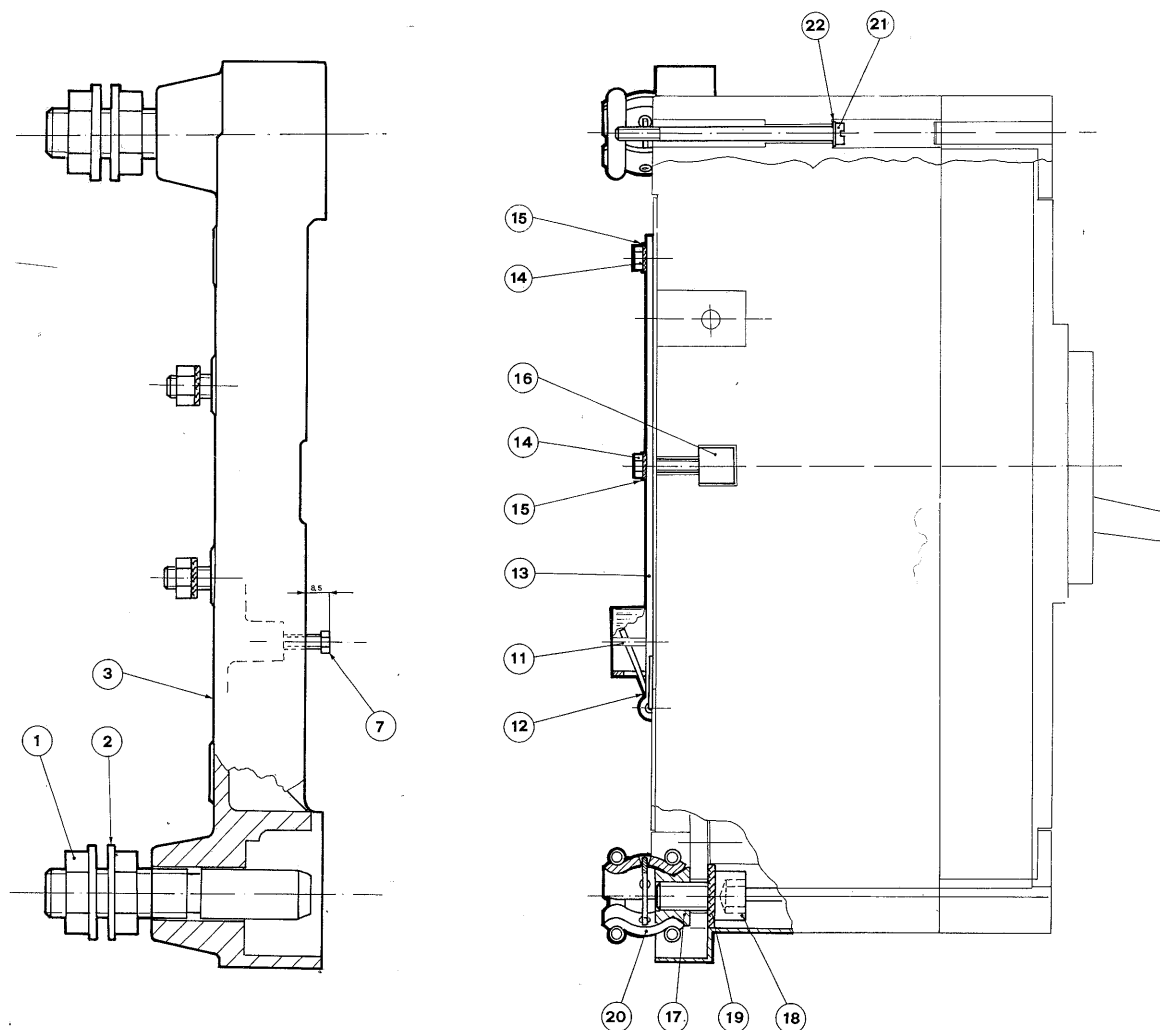

Fig. 11
- f) introduce the torsion spring (12) into the hole of rod (11)
- g) secure plate (13) with screws (14) and washers (15) to the special nut (16) into proper seats on the breaker case
- h) screw down stems (17) from the rear and secure them with nuts (18) and washers (19) from the front with a box spanner, then fit the tulip contacts (20) as shown on the figure
- i) introduce the four screws (21) with split washers (22)
- should performance not be correct, make sure that rod (11) slides frictionless and, if necessary, adjust screw (7)
- n) secure the moving portion to the base (2) by tightening screws (21).
7.5. Trasformazione dell'interruttore base in interruttore estraibile con attacchi posteriori (fig. 11)
7.5. Conversion of a basic breaker into a rear terminal plug-in breaker (fig. 11)